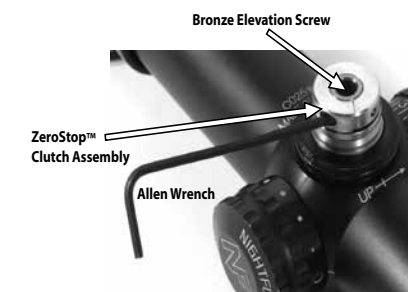
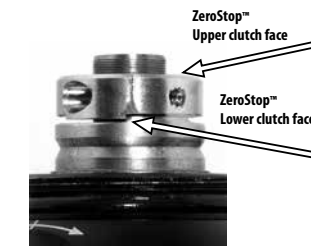

Figure 3
Figure 4
b. Loosen the ZeroStop™ clutch assembly set screw 1½ turns and rotate the clutch assembly clockwise until the bronze elevation screw is flush with the top of the clutch assembly. See Figure 3.
6. Once your desired zero has been achieved, loosen the set screw on the elevation turret and remove the turret. Loosen the set screw on the elevation ZeroStop™ clutch assembly 1½ turns and turn the assembly counterclockwise until it stops against the stop shoulder. See Figure 4. You should not feel any clicks when performing this adjustment. If you do the ZeroStop™ clutch assembly set screw is too tight. While holding the ZeroStop™ clutch assembly against the stop shoulder in a counterclockwise direction, tighten the set screw to 5 inch pounds. See Figure 3 and 4.